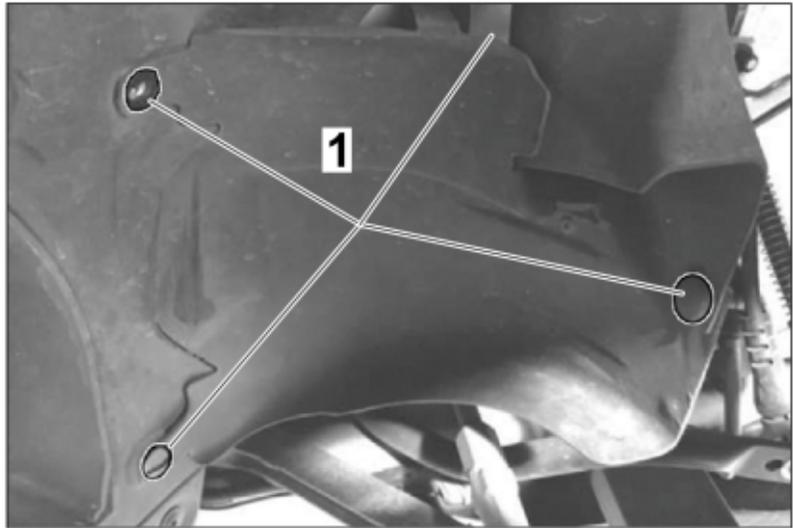

Figure 19
1. – Remove the screws \Rightarrow Figure 19 -1- and remove the front left and right brake air guides.